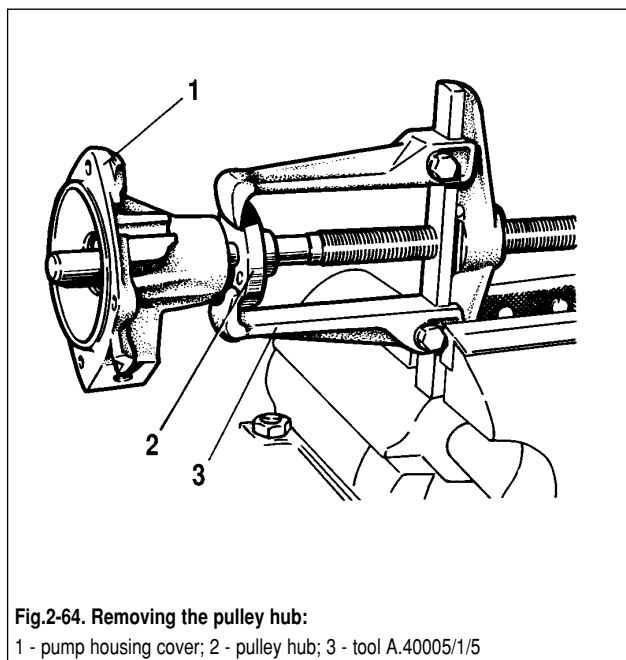

Fig.2-64. Removing the pulley hub:
- remove hub 2 (Fig.2-64) of the fan pulley from the shaft using puller A.40005/1/5;